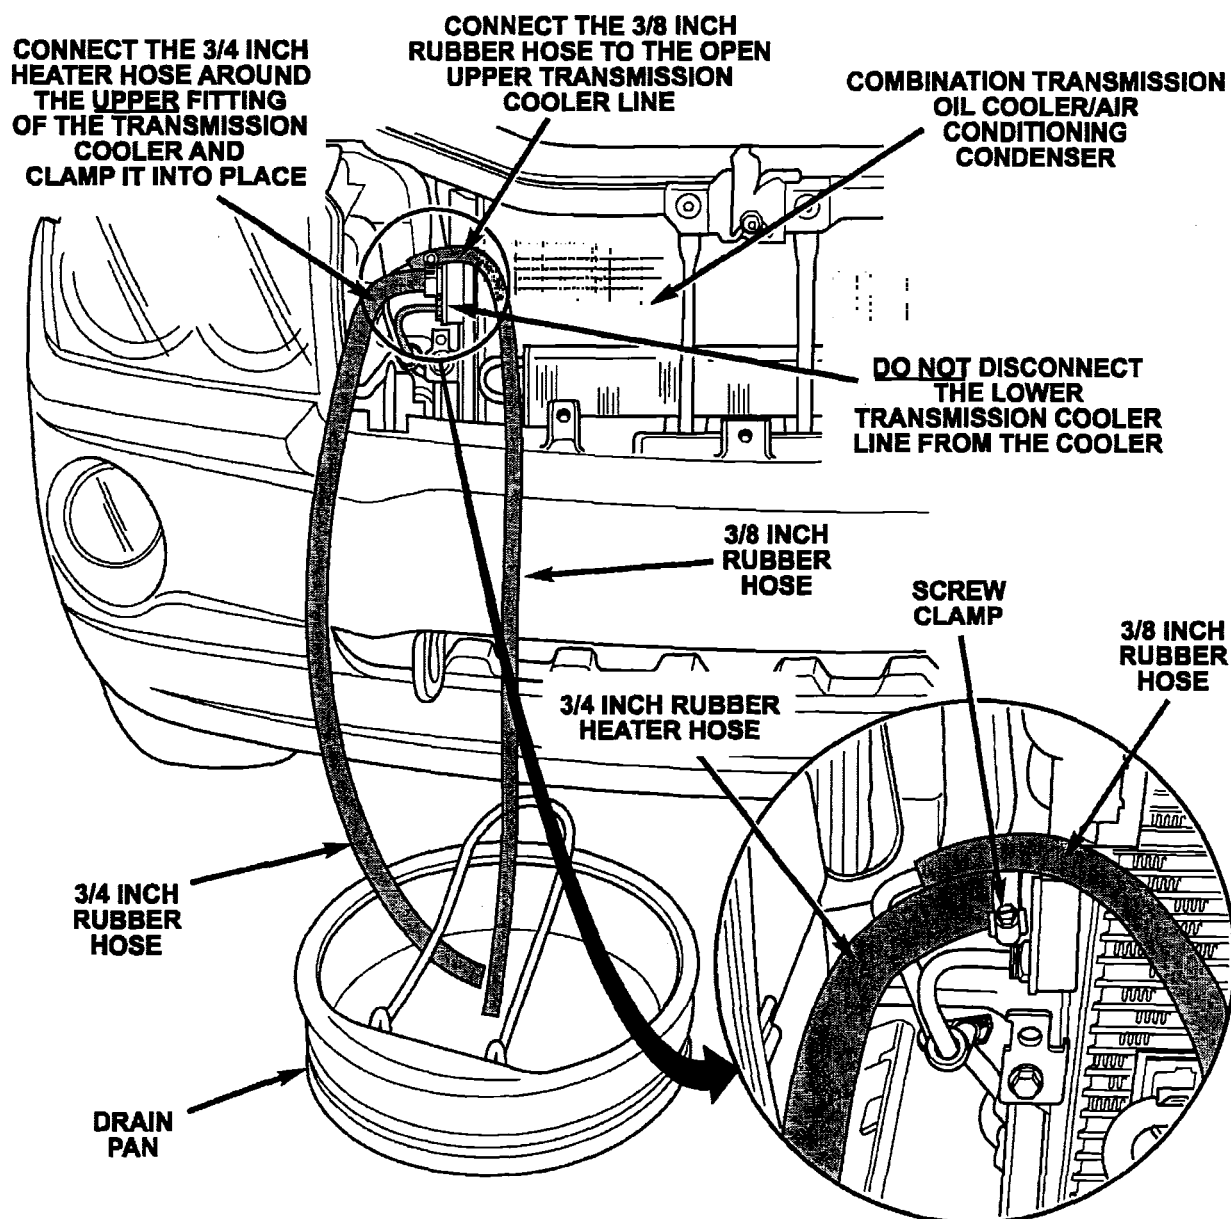

Figure 15
5. Connect a 2 foot long piece of 3/8 inch rubber hose to the upper transmission cooler line coming from the transmission. Place the other end of the hoses into a suitable drain pan (Figure 15).
6. Connect a 2 foot long piece of 3/4 inch rubber heater hose around the upper transmission oil cooler fitting (Figure 15). Use a standard screw type hose clamp to hold the hose in place. Place the other end of the hoses into a suitable drain pan.